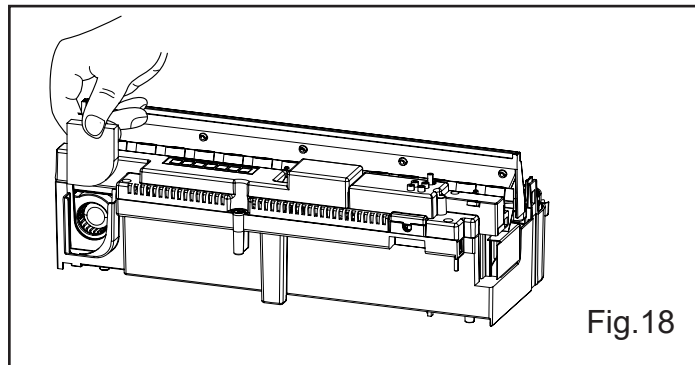

Fig.18
2. Gently slide the air filter upwards out of its plastic holder. (Fig.18)